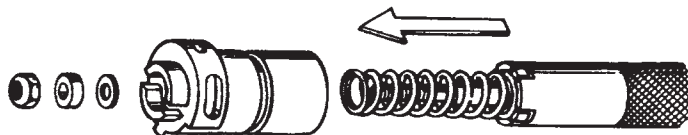

Figure 3
- a) Insert a new low pressure seat (item 8) into the poppet (item 9)
- b) Place the spring (item 10) onto the poppet and holding it with the poppet wrench, G1100-05, insert it into the insert (item 13).
- d) Place the washer (item 14), radiused side out, then the spacer (item 16), and a new locknut (item 17) onto the poppet stem. *Figure 3*. Tighten the locknut only until the first threads are engaged.